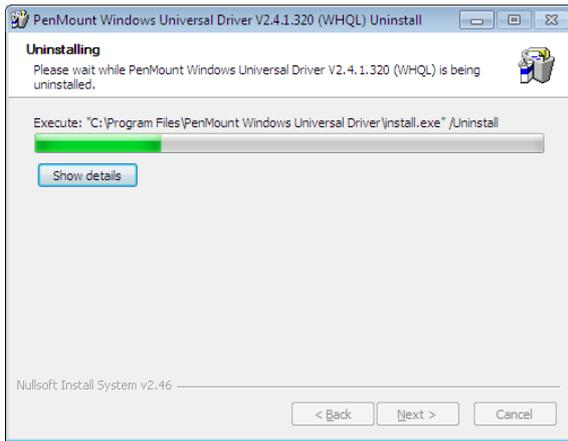

Figure. 108
Step 9: The system will uninstall the driver (Figure. 108).